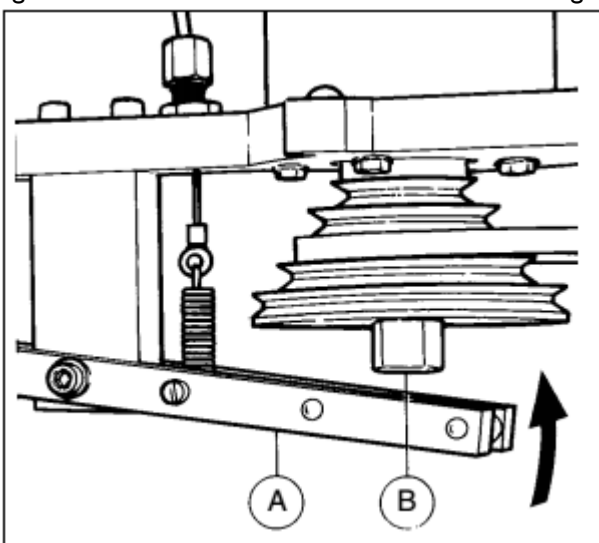

Fig 17
- Then the handle has to be pushed downward into the stop groove on the frame (B).
- Turn the spindle manually to bring the spindle in locking position (fig 17.A-B).